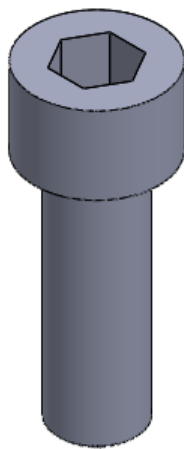
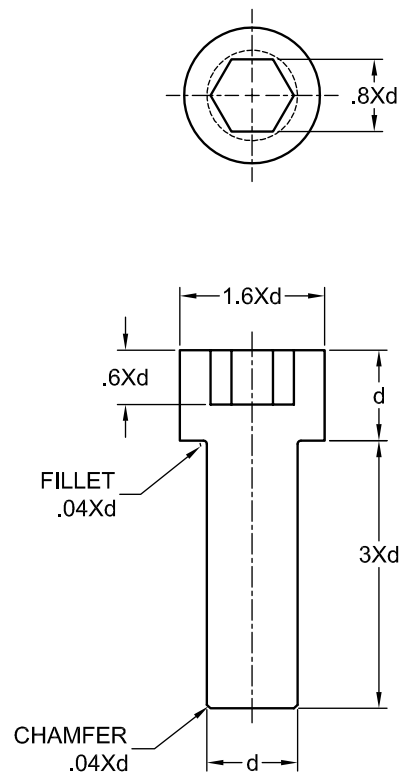
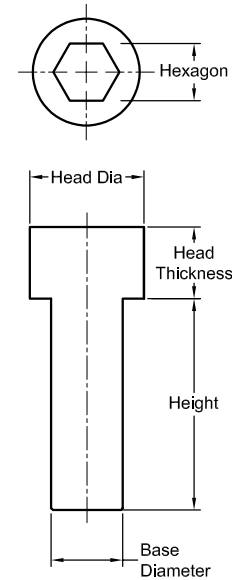

Figure 19-43 Socket Head Screw
Figure 19-44 Parameters of the Socket Head Screw
Figure 19-45 The names of dimensions
In this tutorial, you will create the Socket Head Screw shown in Figure 19-43. Assume the base diameter of the screw **d** as **30 mm**. Add equations to the model, as shown in Figure 19-44. Then, create different configurations by changing the base diameter to **20 mm**, **50 mm**, **40 mm**, and **5 mm** and the other related parameters with respect to the relations given in Figure 19-44.
- Dimension the sketch based on the relations given in Figure 19-44. While placing the dimensions, you need to change the name of the dimensions in the **Primary Value** rollout of the **Dimension PropertyManager**. Refer to Figure 19-45 for the names of dimensions.
- Draw a hexagon on the top face of the base feature and dimension it. Change the name of the dimension, as shown in Figure 19-45.
8. Enter the dimensions for the new instances with respect to the equations shown in Figure 19-44. The Excel sheet after adding the dimensions is shown in Figure 19-47.
11. Add equations to the fillet and chamfer dimensions using the **Equations** dialog box, as specified in Figure 19-44.